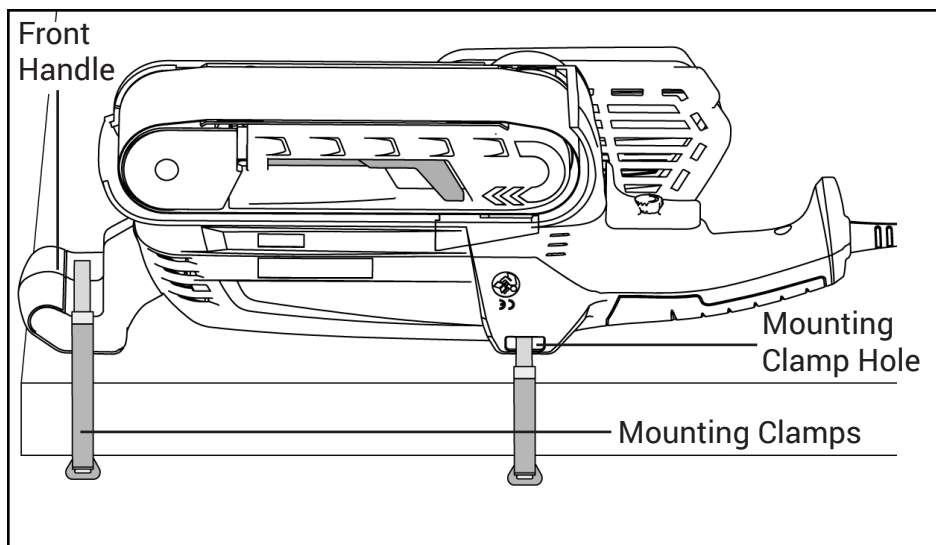

Fig. 6
2. Turn sander over as shown in Figure 6 and place it onto the stable worktop.
3. Locate the mounting clamp opening on the tensioning lever side. Insert one mounting clamp into the mounting clamp opening (Fig. 6) and tighten it.
4. Place the second mounting clamp on top of the front handle (Fig. 6) and tighten it. Make sure both mounting clamps are tightened.